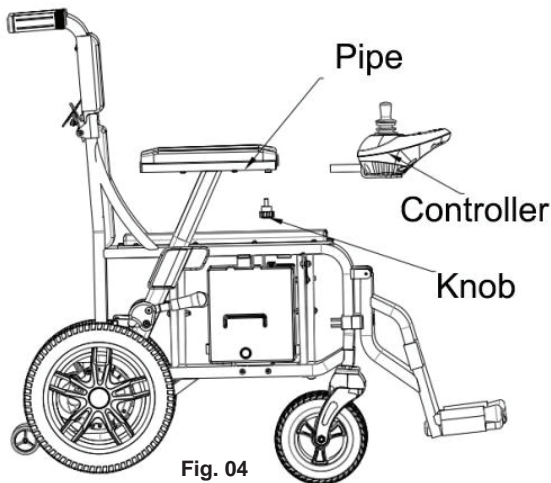

Fig. 04
- Insert one end of the telescopic pipe of the controller into the controller fixing pipe at the lower of the right armrest pipe of the wheelchair (**Fig.04**).